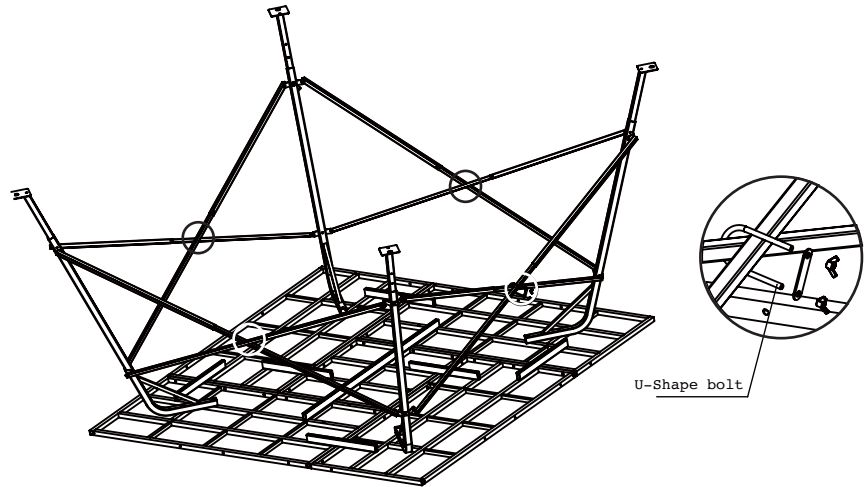

FIGURE 7
Install (4) U-Shape bolts at the cross (Figure 7).